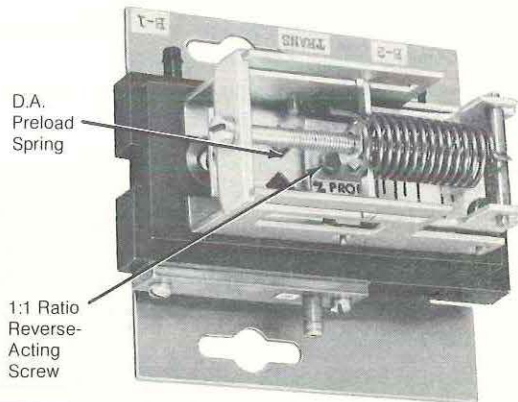

Figure 5.
1. Turn 1:1 ratio reverse-acting screw (Figure 5) all the way in using a 3/16-inch wrench.
2. Disconnect the direct-acting preload spring (Figure 5).
1. Disconnect the D.A. preload spring (Figure 5).